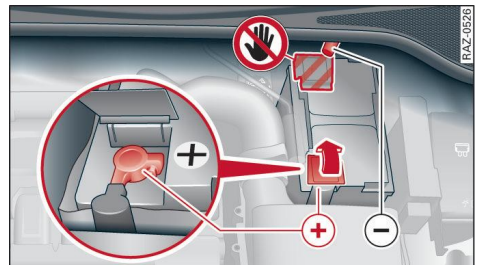

Fig. 162 Engine compartment with battery: Terminals for battery charger or jump leads
- ▶ Open the cap on the positive terminal \Rightarrow *Fig. 162*.